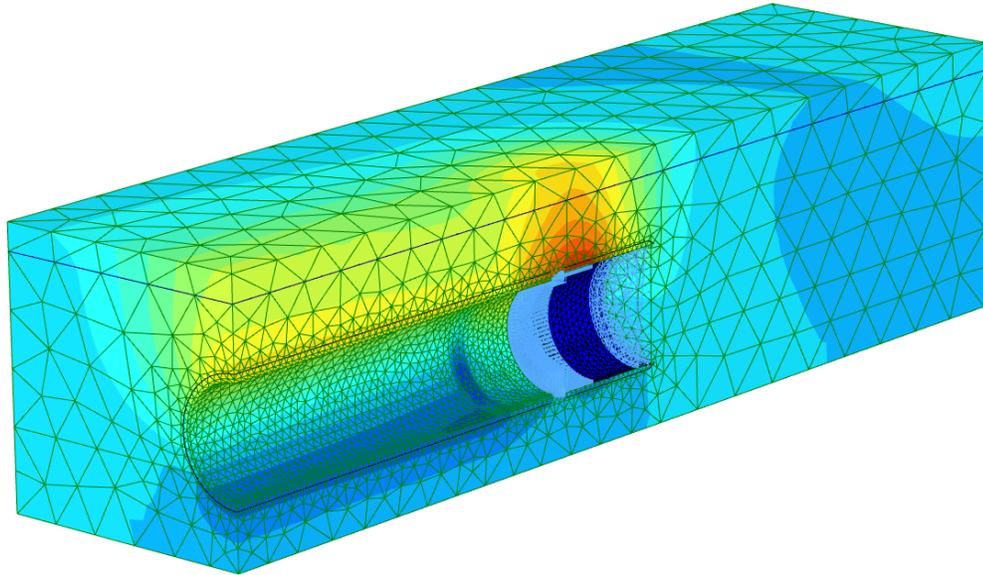

Figure 93: Total vertical displacements after the final phase  $u_z \approx 3.1\text{cm}$
3. From the *Deformations* menu, select *Total displacements* and then  $u_z$  in order to see the total vertical displacements in the model as a shaded plot (Figure 93: Total vertical displacements after the final phase  \$u\_z \approx 3.1\$  cm (on page 113))